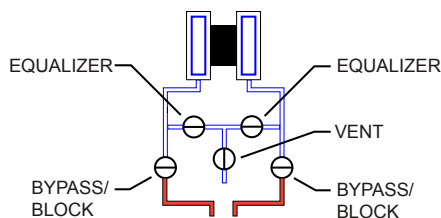

Figure 2.26 - Valve positions for zero offset
1. Close the bypass valves to isolate the pressure below the manifold (Figure 2.26, pg. 55).